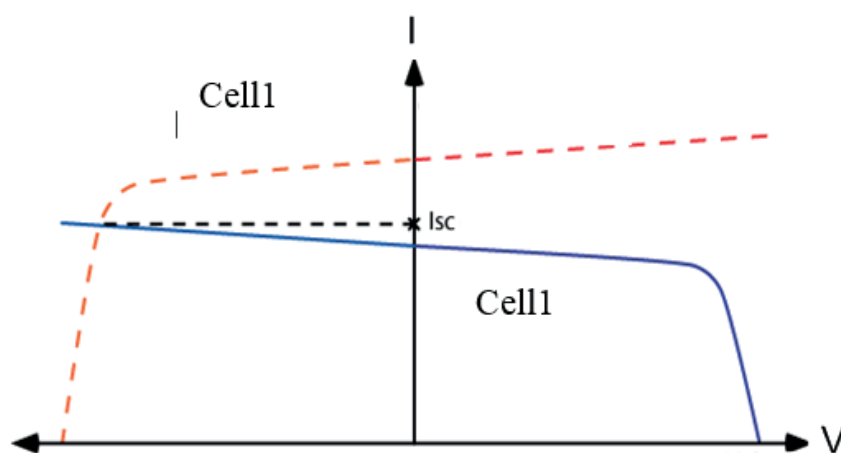

Figure-4
- 8) Draw out IV characteristics of each panel under the same light power and use the method explained in figure-4 to determine the I_{sc_series} value.